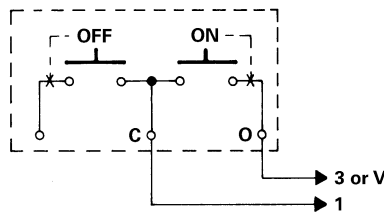

Figure 4
5. For the 2-position selector switch, reference figure 4 for typical connections.